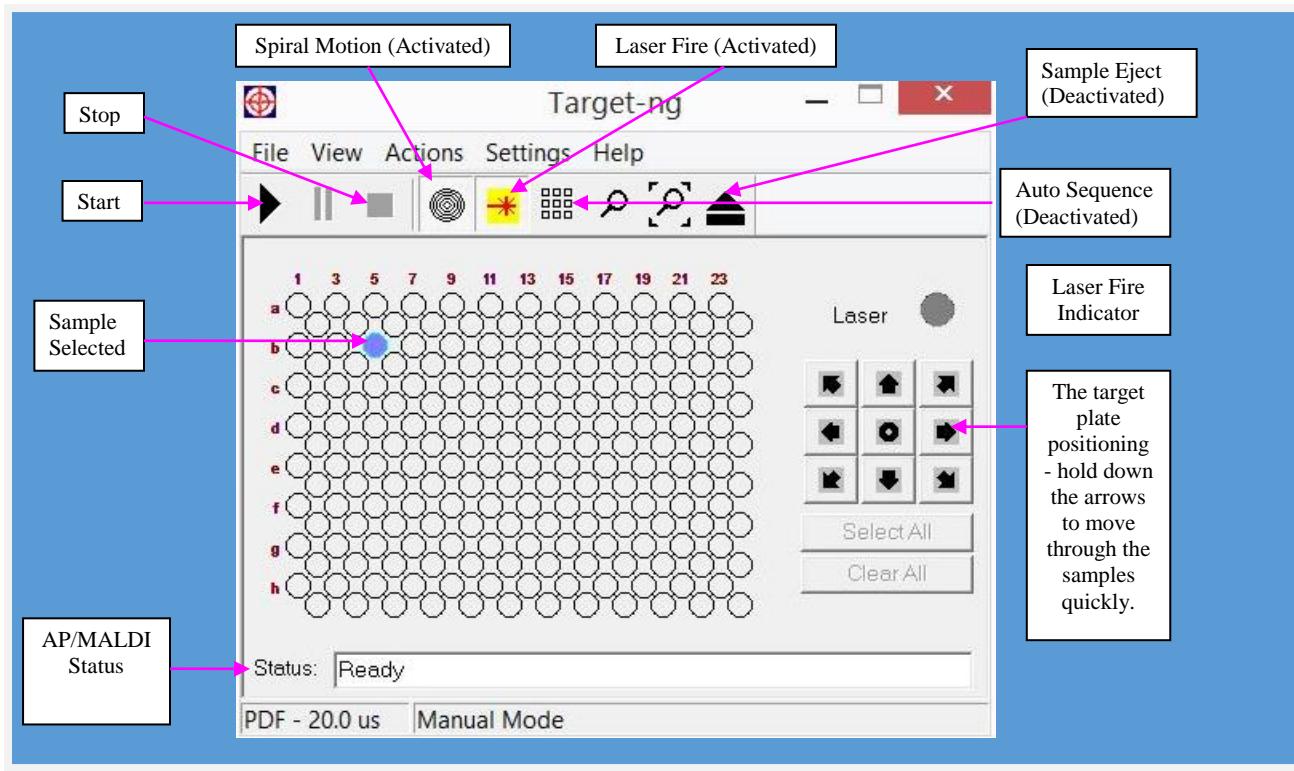
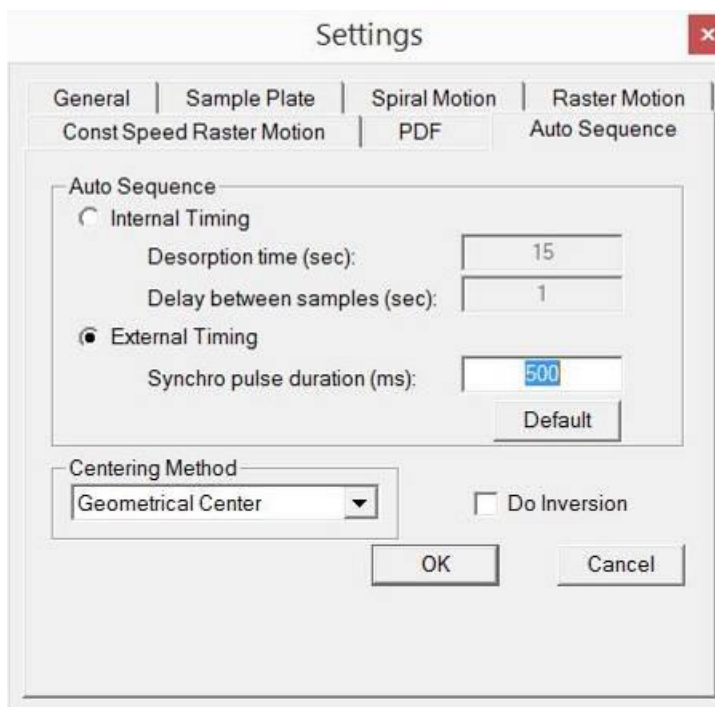

Figure 7.15 Target Software Controls
Figure 7.23 Auto Sequence Settings
There are two modes of operations for the Target Software: manual (auto sequence toolbar icon is deactivated) and auto sequence. The user can switch between the modes by pressing the auto sequence toolbar icon  (Fig. 7.15). In the manual mode, only one sample on the "target plate" can be selected. Click any spot in the target plate field and the target plate will move to the selected position. The user can shift the position of the spot by clicking the arrow buttons placed around the center button as shown in Fig. 7.15, or through holding down on the arrow buttons to advance to the next sample faster. Click the center button to restore the central spot position.
1. Deactivate the “Auto Sequence” button in the Target Software window (See Fig. 7.15 for its location in the software).
The selection between the two automation modes is implemented in the “Auto Sequence” tab of the “Settings” dialog box in the Target Software (the dialog is activated through “Settings” menu item); this is shown in Fig. 7.23.
2. Check that the “Auto Sequence” button is activated in the main Target Software window (see Fig. 7.15) and that the “External Timing” radio button in the Target’s “Settings Dialog” window is activated as well (see Fig. 7.23).
3. Make sure that the “Auto Sequence” button is activated in the main Target Software window (see Fig. 7.15). For the internal timing mode, click the “Internal Timing” radio button in the Target’s “Settings Dialog” window (see Fig. 7.23).
- a. The data acquisition will continue during the time specified for the spot selected, which is known as the desorption time (Fig. 7.23). When the data acquisition from the first sample is done, the laser firing is automatically stopped (by the software) and the target moves to the next sample spot. The current sample is indicated by a blinking color. The process will be repeated until the last sample spot has been analyzed. Finish the data recording in Tune-Plus Program.